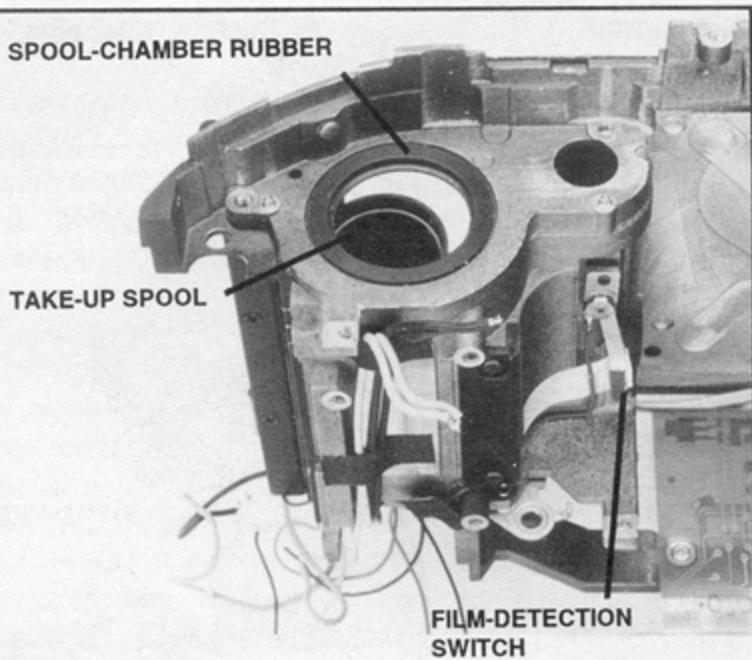

FIG. 28 CAMERA BODY, FILM-ADVANCE UNIT REMOVED
Note: The take-up spool is loose, remaining in the camera body, Fig. 28. To remove the take-up spool, take off the spool-chamber rubber at the top of the body casting, Fig. 28. Then lift out the take-up spool toward the top of the camera.
- d. replace the spool-chamber rubber at the top of the body casting, Fig. 28